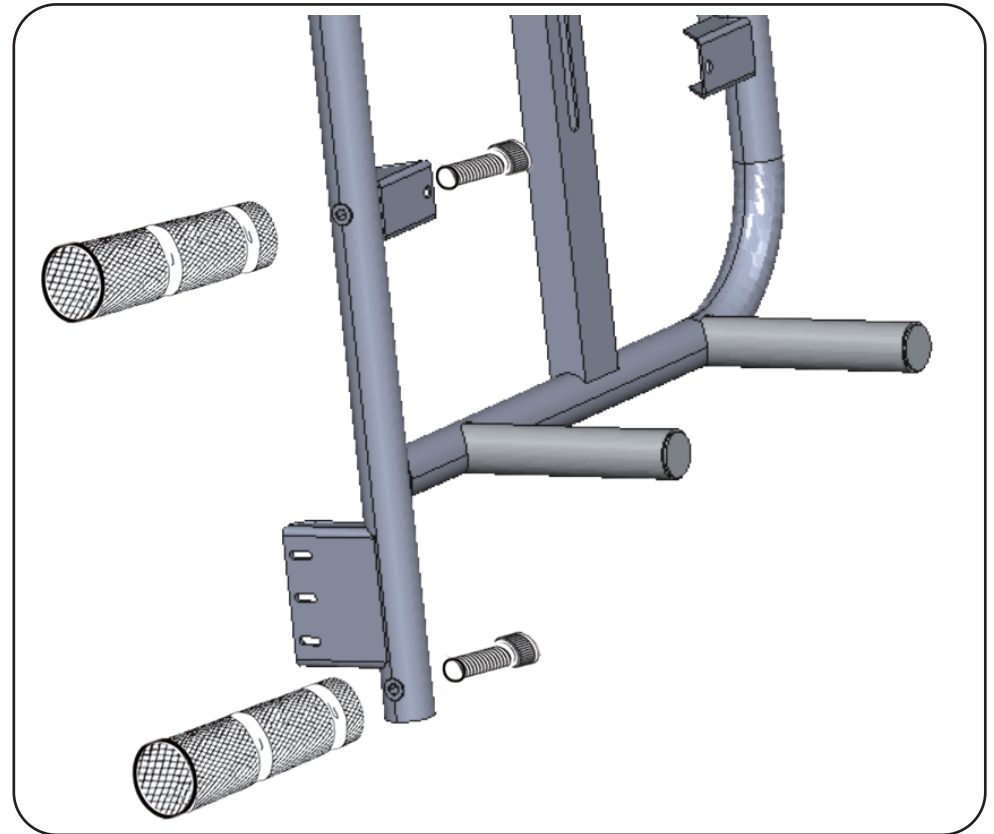

FIG:21
9.1 Foot Pegs: Use one M8 x 50mm Socket Head Bolt to secure each peg at each location shown (**FIG 21**). You should be able to use your hand on the peg and tighten on to the bolt using an 6MM Allen wrench to hold the bolt. if your hand is not enough you can use a soft grip plumbers wrench or other non marring pliers.